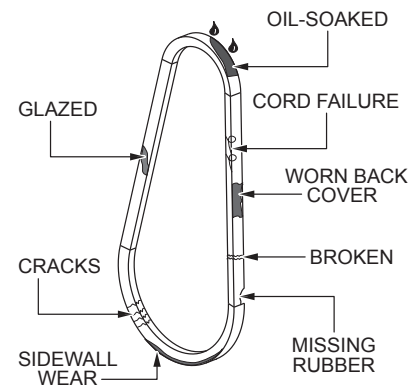

**Figure 53. Spark Plug**
1. Remove the spark plug (Figure 53) and clean it with a wire brush if it is to be reused. Replace the spark plug if the insulator is cracked or chipped.
2. Using a feeler gauge, adjust the spark plug gap (Figure 53). If your trowel has a **Honda** engine, the gap should measure 0.028–0.031 inch (0.7–0.8 mm). If your trowel has a **Robin-Subaru** engine, the gap should measure 0.024–0.028 inch (0.6–0.7 mm).